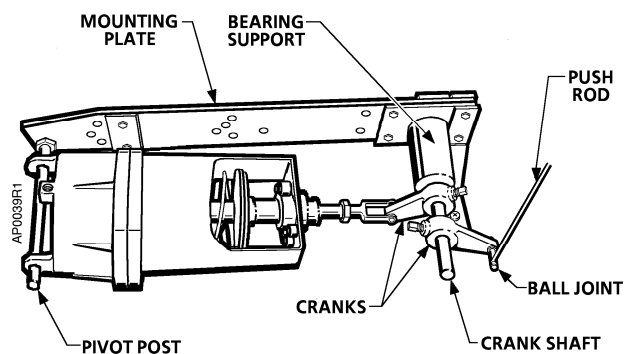

Figure 3. Remote Mounting Kit 331-618 with 331-2856 Actuator Mounted.
| | Remote mounting kit (extended shaft), Figure 3 | 331-618 |
- When the actuator cannot be directly mounted, drive the extended damper shaft using the Remote Mounting Kit 331-618 and Actuator 331-2856. See Figure 3.